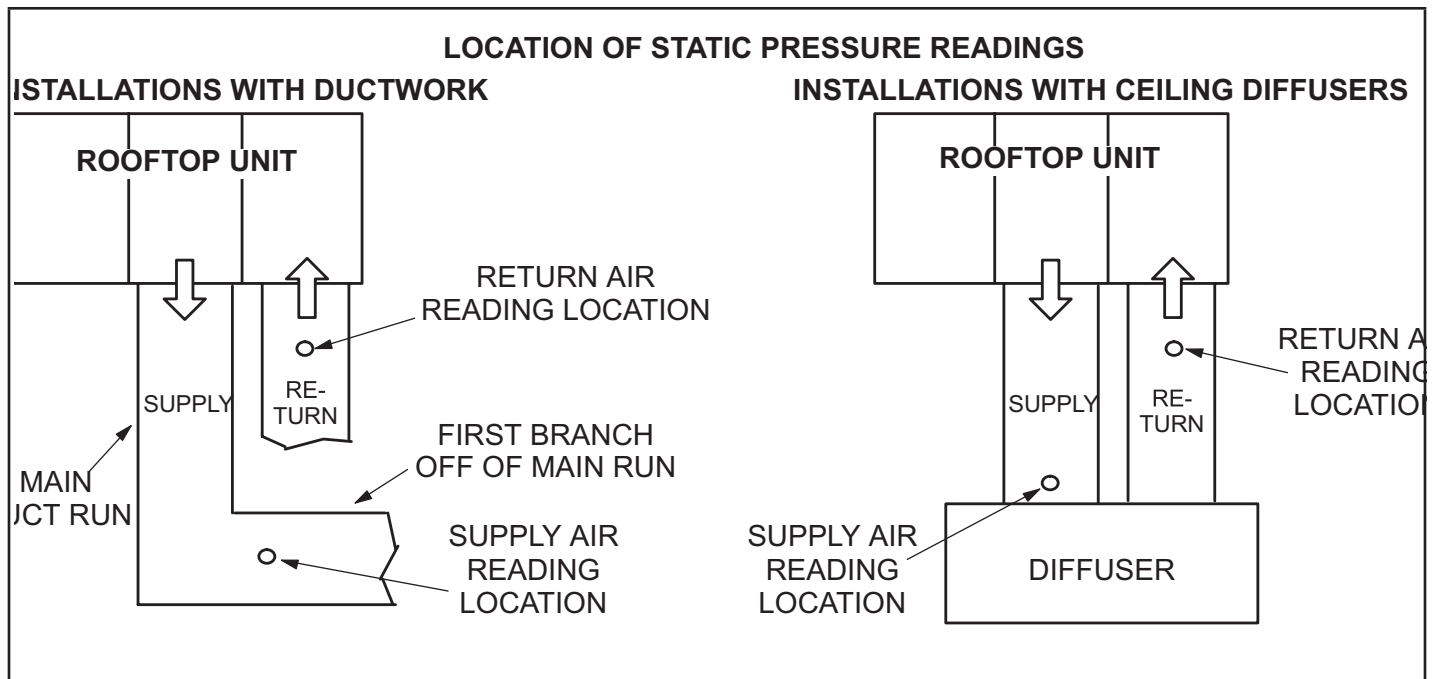

FIGURE 21
- 2 - With all access panels in place, measure static pressure external to unit (from supply to return). Blower performance data is based on static pressure readings taken in locations shown in FIGURE 21.